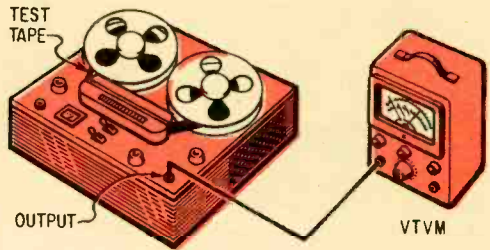

Fig. 1—For playback frequency-response test, measure the machine's output with a test tape that has constant-level tones from 50-15,000 cps.
Crystal Radio. This one's a classic since it's so old and does so much with so little. It demonstrates fundamental concepts applicable to any receiver: tuning, detection and audio reproduction. Its schematic is shown in Fig. 1 along with oscilloscope photos that show the incoming signal and what happens to it.
Fig. 1—Simplest radio is a crystal set—a modern-day version of the old cat's-whisker design. It requires no operating power. Incoming signal is tuned by L1, C1 combination. Selected signal is rectified by D1. RF is stripped away (filtered) by C2. Remaining audio signal drives phones directly. Photos show signals in circuit when the radio receives an 800-kc RF signal which is modulated by a 1,000-cps audio signal. To improve the selectivity, connect (broken line) D1 to the tap (2) on L1.
but nagging things that cause general degradation of performance. If you want to check the results of your efforts, run a frequency-response test. The setup to use is shown in Fig. 1. A test tape (such as Ampex No. 31321-04) is required to provide a series of constant-level signals from 50 to 15,000 cps. If the machine has good playback response it will reproduce each tone equally well, as indicated on the VTVM.
Fig. 1—Because receiver operates near 72 mc, follow layout exactly at left side of board near Q1. Most wiring in our model is on rear of board. We used a dual .01 μ f disc capacitor for C14 and C15.